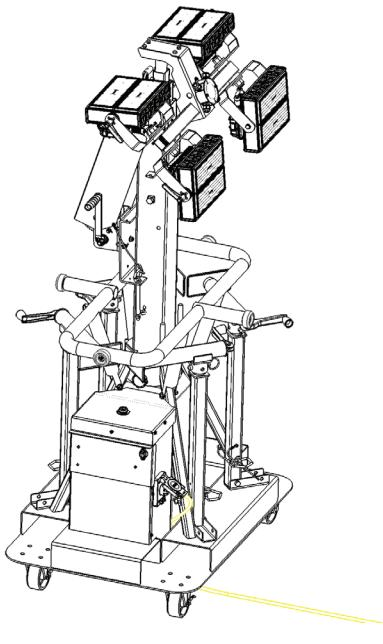

Figure 4
Before transporting, make sure that the portable light tower is in the transport position (Figure 4):
4. Pull the light arm pin, and rotate the light arm until the light fixtures are as shown in Figure 4. Make sure that the locking pin engages one of the holes after adjusting. Repeat for the other light arm. See ***Adjusting the Light Fixtures.***